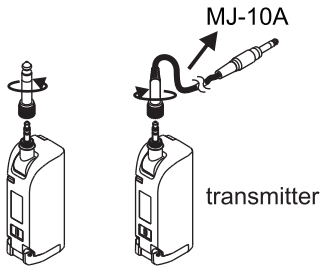

Fig. 40-1    Fig. 40-2
- (A) Remove the 6.3 Ø input phone plug adapter from MT-58, Fig. 40-1.